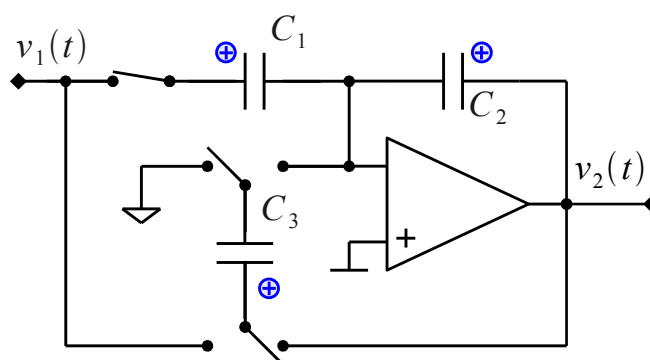

Figure 8.10.1: SC circuit.
- Derive the transfer function for the SC circuit in Figure 8.10.1.